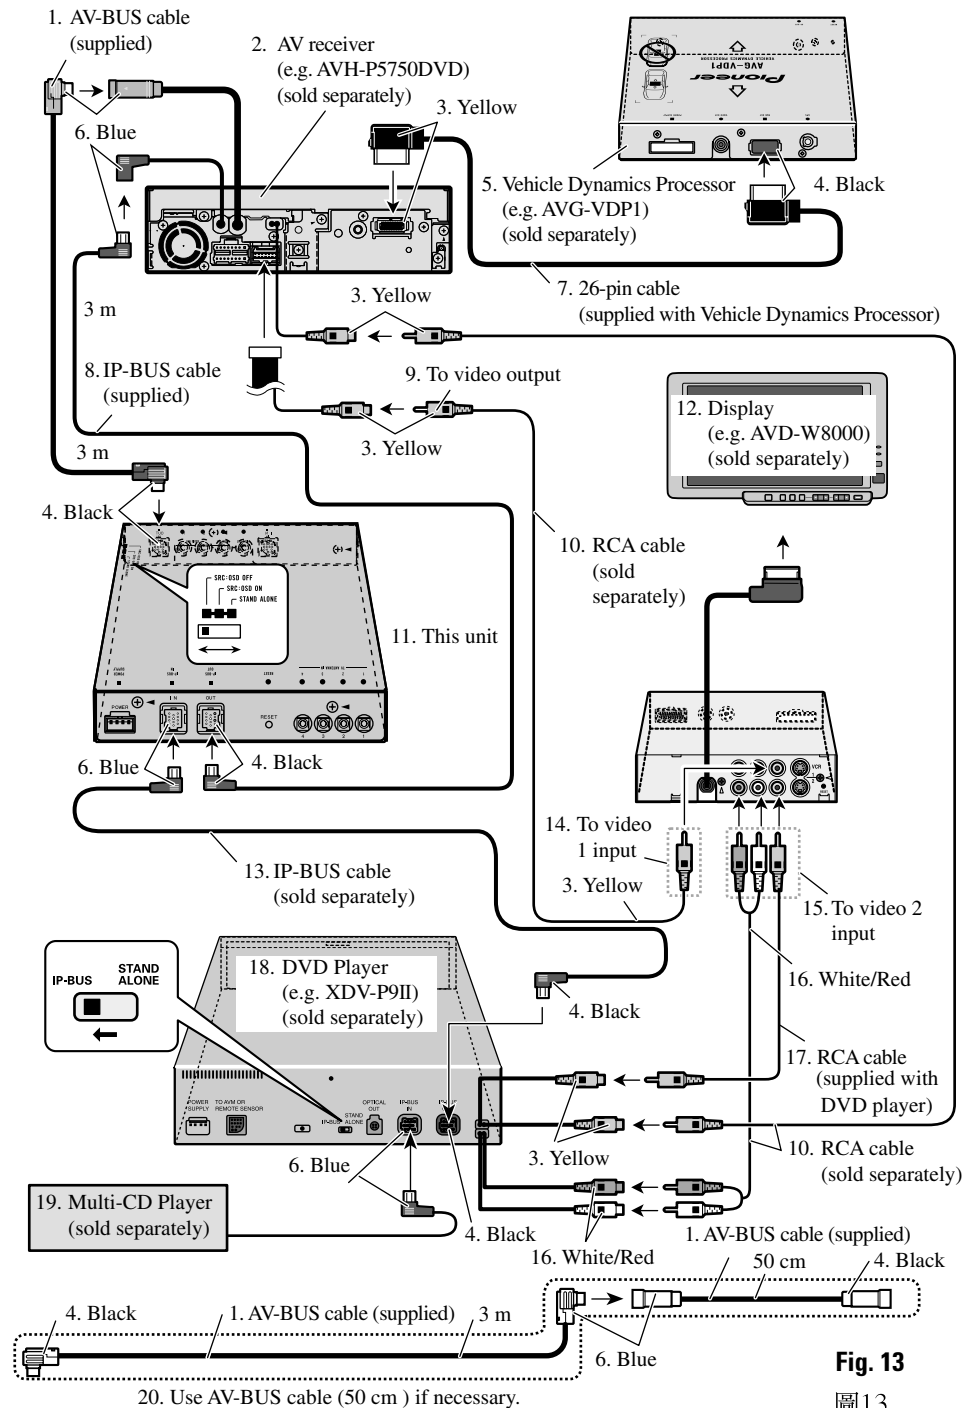

Fig. 13
■ When using this unit as "SRC : OSD OFF" mode (Fig. 13)